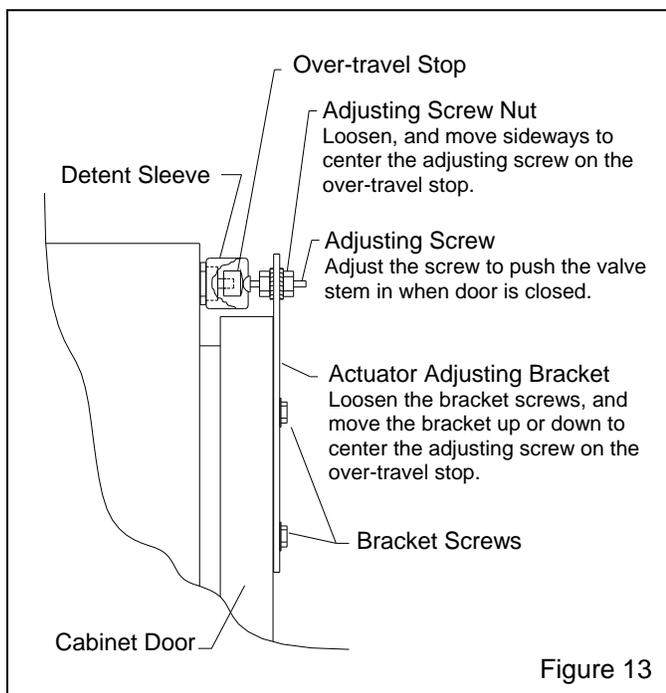

Figure 13
5.5 Door Interlocks, Figure 13